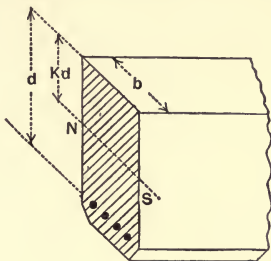

Fig. 4.
7. Fig. 4 represents a concrete beam reinforced with steel rods. When fully loaded the compressive stress in the concrete is not to exceed 600 lbs. per square inch and the tensile stress